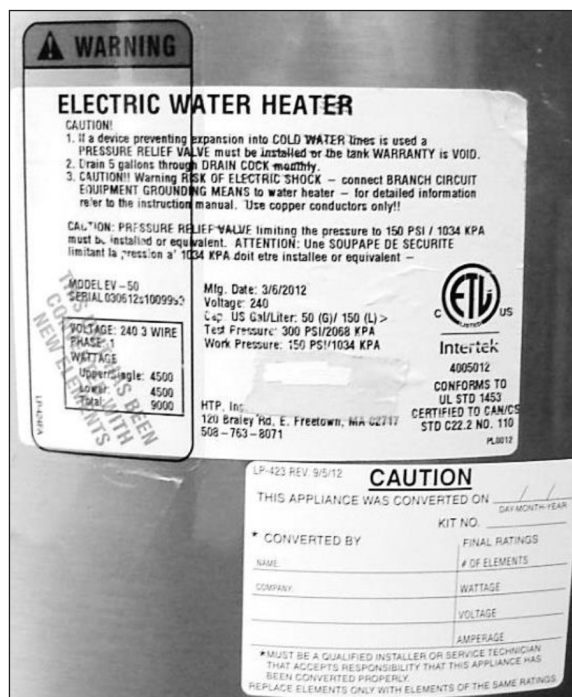

Figure 6 - Example of Conversion Label Replacement
- a. The Qualified Service Technician should fill in the white label with all conversion information in permanent ink. Place the completed label in an area close to the electric water heater rating label. See Figure 6.
- b. Place the clear warning label that states, **"THIS WATER HEATER HAS BEEN CONVERTED"** over the electric water heater rating label on the water heater. Ensure the original model and serial numbers remain exposed. See Figure 6.